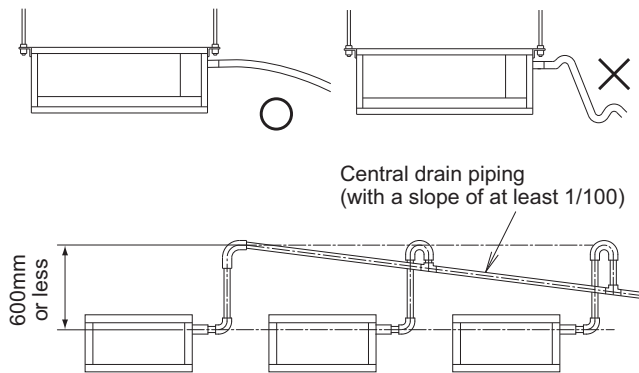

Fig. 10
- Keep the drain piping short and sloping downwards at a gradient of at least 1/100 to prevent air pockets from forming. (Refer to Fig. 10)
- Do not twist or bend the drain hose (2), so that excessive force is not applied to it. (This type of treatment may cause leaking.)
- If you are using central drain piping, follow the procedure outlined in figure 10.